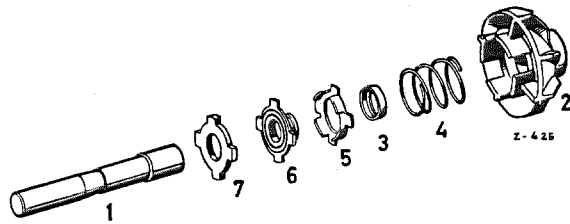

Figure 20-8/11
10. Screw the oil filler plug (14) and the oil level check plug (15) with sealing ring into the housing.
11. If the impeller has been removed from the water pump shaft, then press the water pump shaft (11) into the impeller (13) that the shaft end is flush with the impeller (see Figure 20-8/8).
12. Slip on the shaft (1), the cover (3), the pressure spring (4), the slip ring cage (5), the sealing ring (6), and the slip ring (7), (Figure 20-8/11).